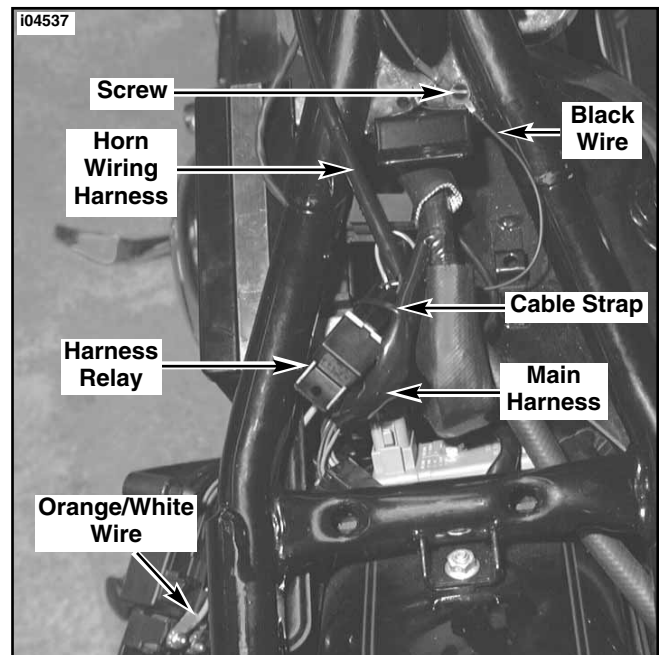

Figure 2. Route Harness Wiring
5. See Service Parts Illustration and Figure 2. Obtain Wiring Harness (15) from kit. Install orange/white wire ring terminal to silver post on circuit breaker and reinstall nut. Tighten nut securely. Reinstall plastic cover to protect posts.
6. See Figure 2. Begin routing new horn wiring harness upward between frame backbone and along left side of main harness toward front of bike.
8. Use existing screw or Self-Tapping Screw (13) from kit and install black wire ring terminal to small hole in upper frame crossmember. Tighten securely.